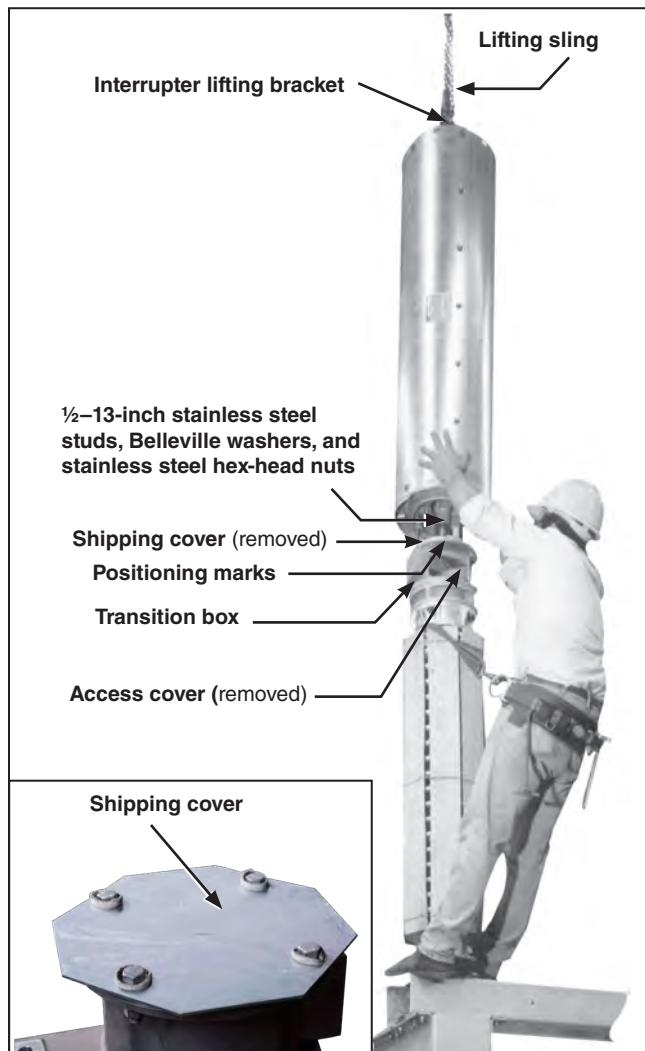

Figure 13. Attaching the interrupter to the insulating support column.
STEP 1. Attach a lifting sling to the lifting bracket on one of the interrupters. Remove and discard the clamps and associated $\frac{1}{2}$ -inch galvanized steel hardware that fasten the interrupter shipping bracket to the high-speed base and carefully lift the interrupter slightly higher than the top of the transition box of its associated insulating support column. See Figure 13.
- (a) Remove and discard the shipping cover on top of the transition box. See Figure 13 on page 17, inset.
- (c) Remove the four $\frac{5}{16}$ -18× $\frac{3}{4}$ -inch hex-head stainless steel cap screws used to attach the access cover to the side of the transition box. Remove the cover and place it and the hardware on a clean surface. See Figure 13 on page 17. Also remove the cloth bag containing the hardware that will be used to connect the interrupter coupling to the operating rod link in Step 4(g).